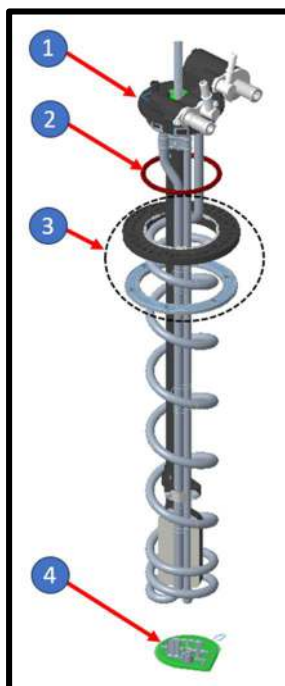

Figure 2.1 Replaceable Parts List
- 1) Ensure the gasket mounting surface (refer **Figure 2.1**) on the tank is clean. Place the gasket on the tank by aligning the holes. Gasket orientation and side are not critical.